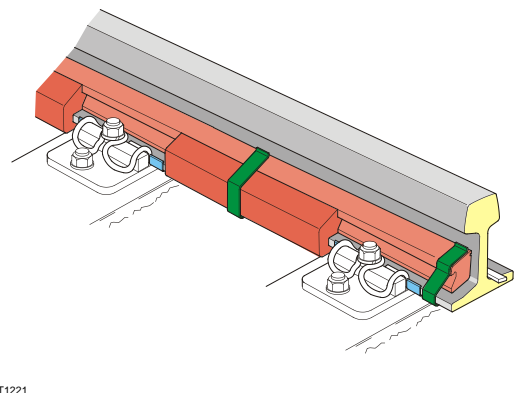

Fig. 2.4 Point with low slide chair fixation
- In points with low slide chair fixation (e.g., 49E1, 54E3, 60E1), insulation can be applied both between the slide chairs (outer side and bottom side of rail) and above the clamps (outer side of rail only) (figure 2.4).